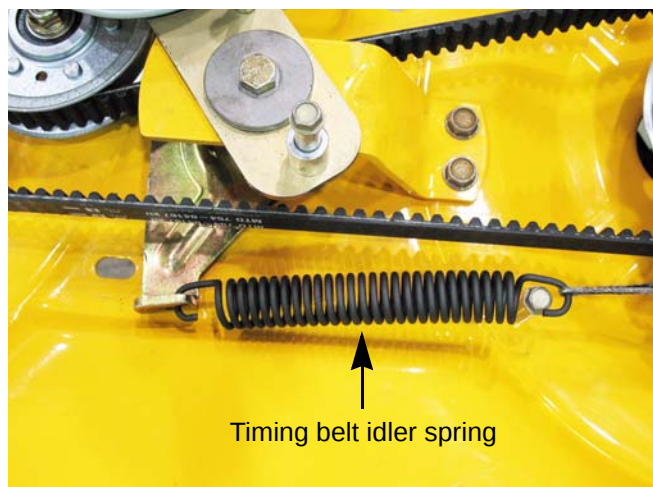

Figure 8.23
5. Remove the timing belt idler spring. See Figure 8.23.